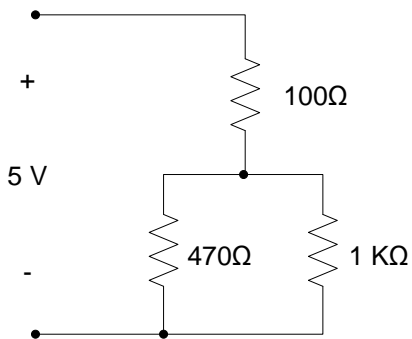

Figure 1. Circuit schematic.
This portion of the lab assignment concerns the circuit shown in Figure 1 below. A power supply is used to apply the 5V voltage difference. We wish to determine the power dissipated by the 1K Ω resistor.
Analyze the circuit of Figure 1 to estimate the power dissipated by the 1kΩ resistor.
1. Construct the circuit of Figure 1; measure and record all actual resistance values. Measure the parameters necessary to determine the power dissipated by the 1kΩ resistor. Determine the power dissipated by the 1kΩ resistor. Compare the measured power with your estimate from the pre-lab. Comment on any differences between the estimated and measured values.